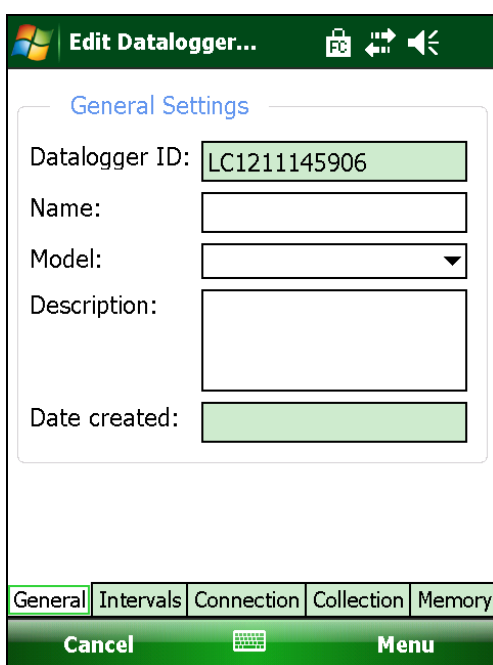

Figure 49 - Edit Datalogger Settings
4. LogView Mobile will display the datalogger settings dialog (see Figure 49). You will need to specify the datalogger model and name as a minimum. See section 8.3 for more information on all of the "DataLogger Settings".